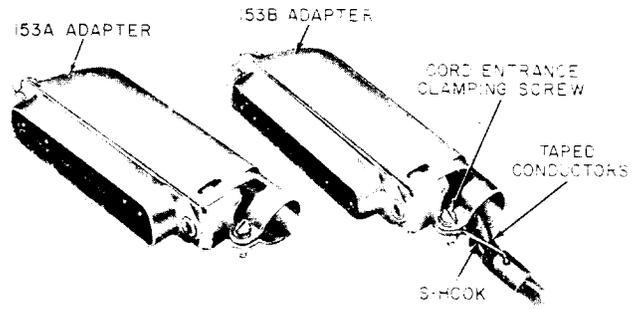
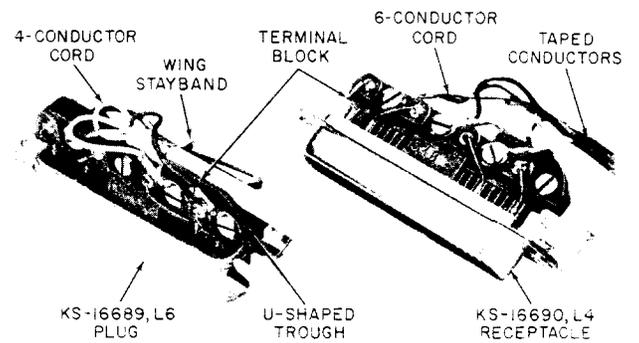
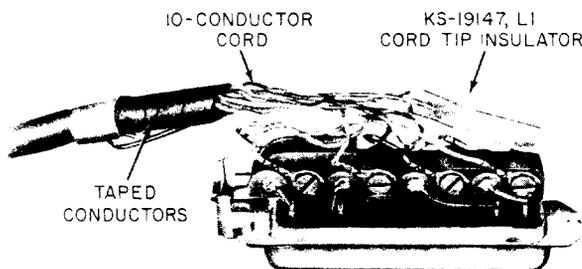

Fig. 8—153A and 153B Adapters
Fig. 9—153A and 153B Adapters, Hood Removed
Fig. 11—10-Conductor Cord in 153-Type Adapter
D. 153A and 153B Adapters (Fig. 8)
2.21 The 153A adapter consists of a KS-16689, List 6 plug with a terminal block fitted to the back of plug body (Fig. 9).
List 4 receptacle with a terminal block fitted to the back of the receptacle body. The terminal block has eight screw-type terminals wired to terminals of the plug or receptacle (Table A). A U-shaped trough on top and at cord entrance end of the terminal block assembly (Fig. 9) serves to retain the wing-type stayband of cords so equipped.
2.23 The hood has a cord-entrance clamping screw which is used to restrain S-hook terminated cords (Fig. 9), and cords of this design should have the conductors taped about 1-1/2 inches to improve appearance and protection (Fig. 8).
2.27 Cords with up to ten conductors (Fig. 9 and 11) may be used with the 153-type adapter. Only eight spade tips can be terminated. Insulate and store extra spade tips. Due to limited space, use KS-19147, List 1 cord tip insulator (Fig. 11).